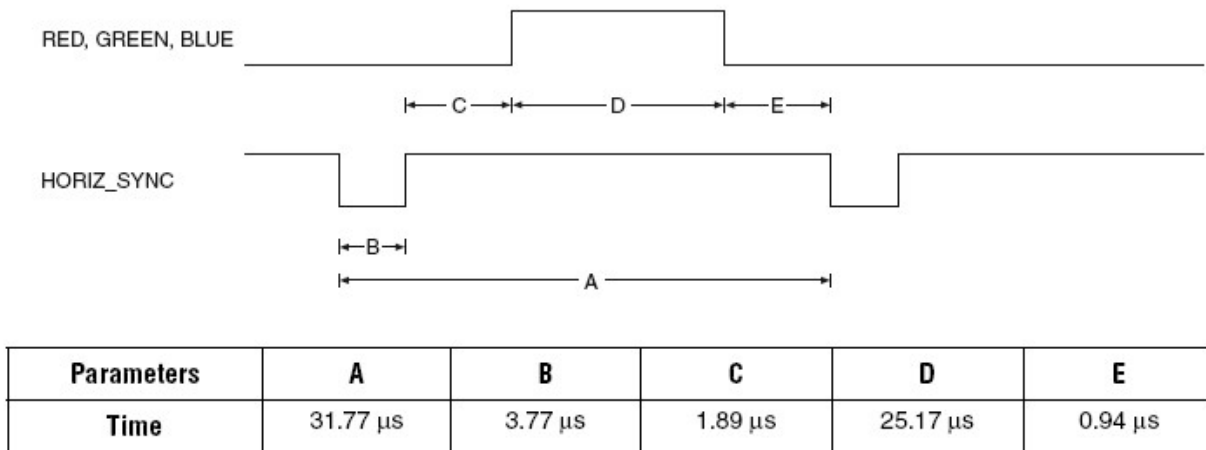
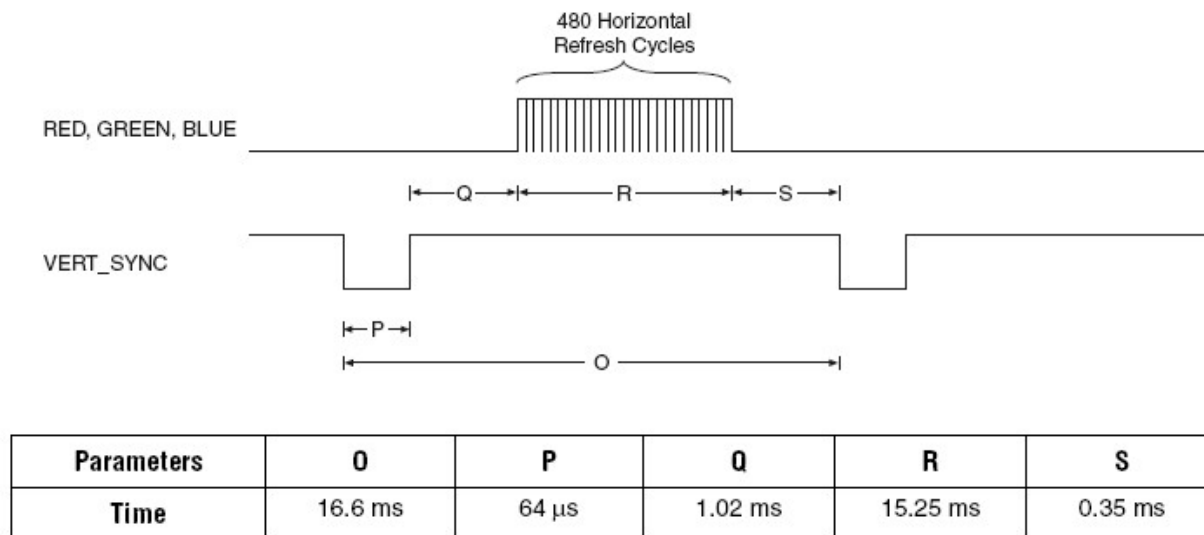

Figure 1. Horizontal Refresh Cycle.
Figure 2. Vertical Refresh Cycle.
The VGA monitor connector on the UF-4712 board consists of five signals, RED, GREEN, BLUE, `HORIZ_SYNC`, and `VERT_SYNC`. Look into the UF-4712 Board Guide for the header pin outs for the UF-4712 board for these 5 signals. The timing relationships among this signal are shown in **Figures 1 and 2** at the end of this lab write-up. The generation of signals needed for the raster on the VGA monitor begins with dividing the frequency of the 25.175 MHz clock on the UF-4712 board down to the horizontal and vertical sync frequencies. This means your design will contain a **horizontal counter** and a **vertical counter**. The horizontal and vertical synch pulses of appropriate lengths are then produced from the two counters.
Horizontal and vertical synchronization. A video display consists of 640 pixels in the horizontal direction and 480 lines of pixels in the vertical direction. The monitor starts each refresh cycle by updating the pixel in the top left-hand corner of the screen, which can be treated as the origin (0,0) of an X–Y plane. After the first pixel is refreshed, the monitor refreshes the remaining pixels in the row. When the monitor receives a pulse on the **`HORIZ_SYNC`** pin, it refreshes the next row of pixels. The time required for the sweep, the horizontal sweep period, is nominally 31.77  $\mu$ s. This process is repeated until the monitor reaches the bottom of the screen. When the monitor reaches the bottom of the screen, a 64  $\mu$ s pulse applied to the **`VERT_SYNC`** pin, causing the monitor to begin refreshing pixels at the top of the screen (i.e., at [0,0]). As shown in Figure 2, the `VERT_SYNC` pulse must be repeated every 16.6 ms (vertical sweep period). A complete screen of information is being traced by the electron beam every 16.6 ms for a frame rate of 60 Hz.
Blanking intervals. In order to accommodate the time required to move the electron beam back to the left side of the screen (horizontal retrace period) the electron beam must be turned off during the retrace time or the return trace would be visible. This is accomplished by two blanking intervals during the horizontal refresh cycle marked by B and C at the beginning of the trace and E at the end of the trace in Figure 1. Similar blanking intervals are required during vertical refresh (P, Q, and S in Figure 2). The color beams are turned on only when the horizontal counter is in the period D and the vertical counter is in period R.
- IMPORTANT- A value of zero on Hcount corresponds to the beginning of section D in Figure 1.
- IMPORTANT- A value of zero on Vcount corresponds to the beginning of section R in Figure 2.